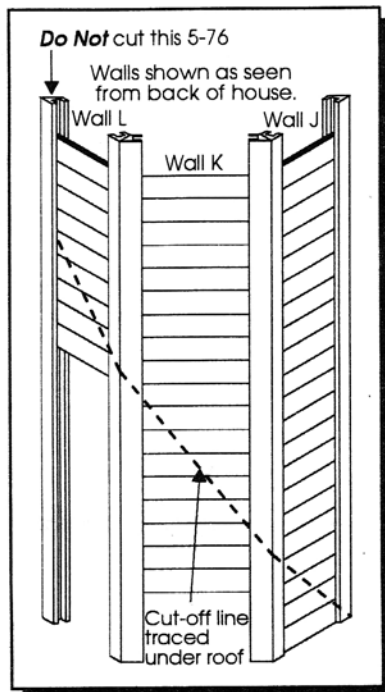

Figure 29
11. Trace the underside of the Roof line onto the Siding Walls J, K, and L and the cornerposts. Remove these walls and cornerposts (except the single piece of 5-76 connected to Wall L) and cut on the lines. Reinstall and glue in place. See Figure 29.